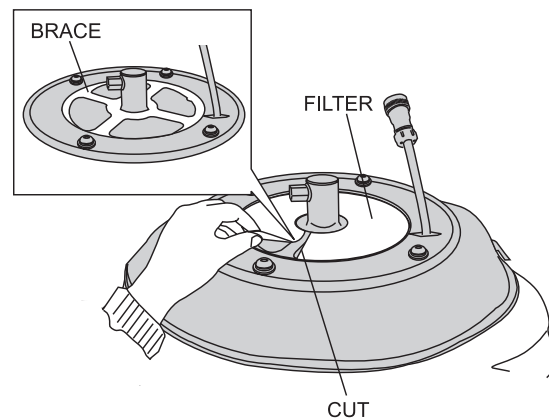

Figure 43. Filter Placement
5. Install a new filter over the brace as shown in Figure 43. Be sure to align the **cut of the filter** over the brace.